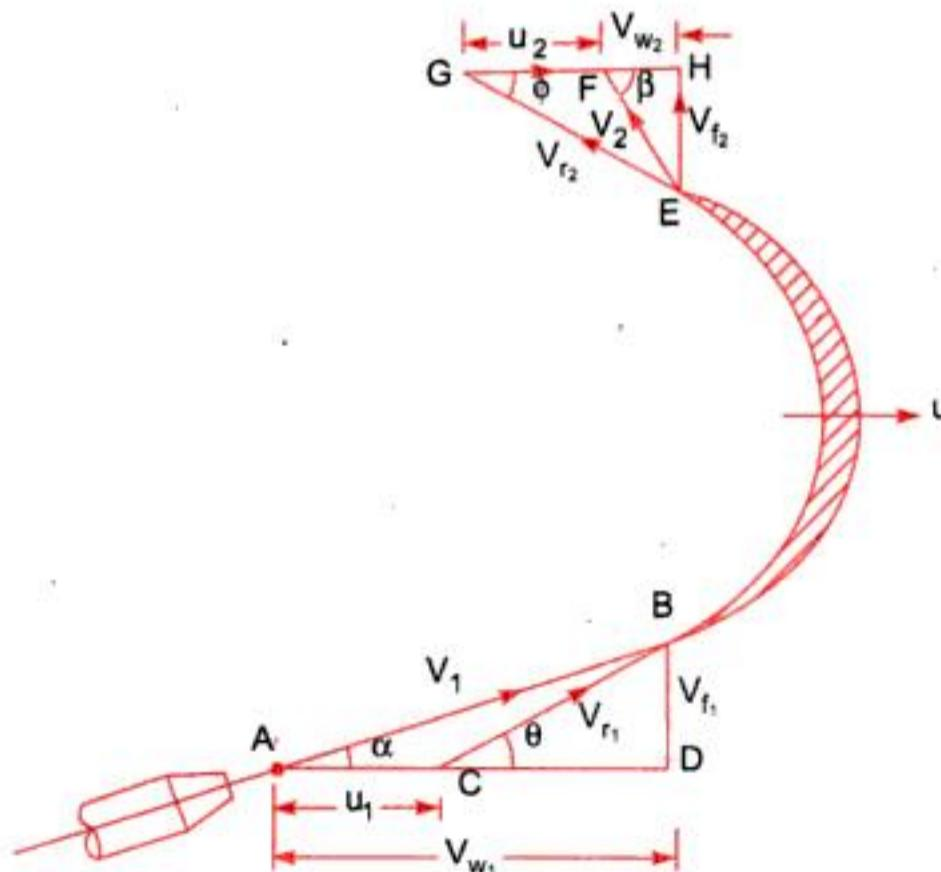

Fig. 17.15 Jet striking a moving curved vane at one of the tips.
17.4.4 Force Exerted by a Jet of Water on an Un-Symmetrical Moving Curved Plate when Jet Strikes Tangentially at one of the Tips. Fig. 17.15 shows a jet of water striking a moving curved plate (also called vane) tangentially, at one of its tips. As the jet strikes tangentially, the loss of energy due to impact of the jet will be zero. In this case as plate is moving, the velocity with which jet of water strikes is equal to the relative velocity of the jet with respect to the plate. Also as the plate is moving in different direction of the jet, the relative velocity at inlet will be equal to the vector difference of the velocity of jet and velocity of the plate at inlet.